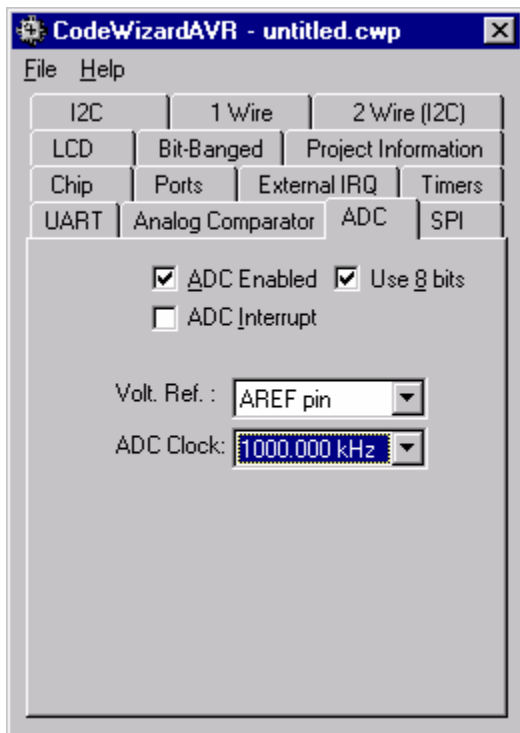

Figure 3: ADC
**5) Set the ADC (Analog to Digital Converter) options as shown in Figure 3**